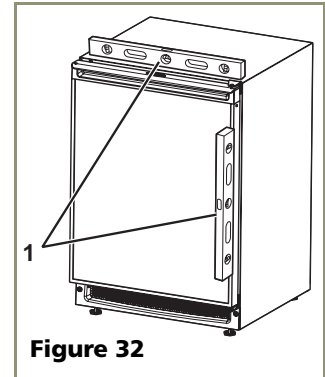

Figure 32
1. Use a level to check the levelness of the unit from front to back and from side to side. Level should be placed along top edge and side edge as shown (see **Figure 32**).